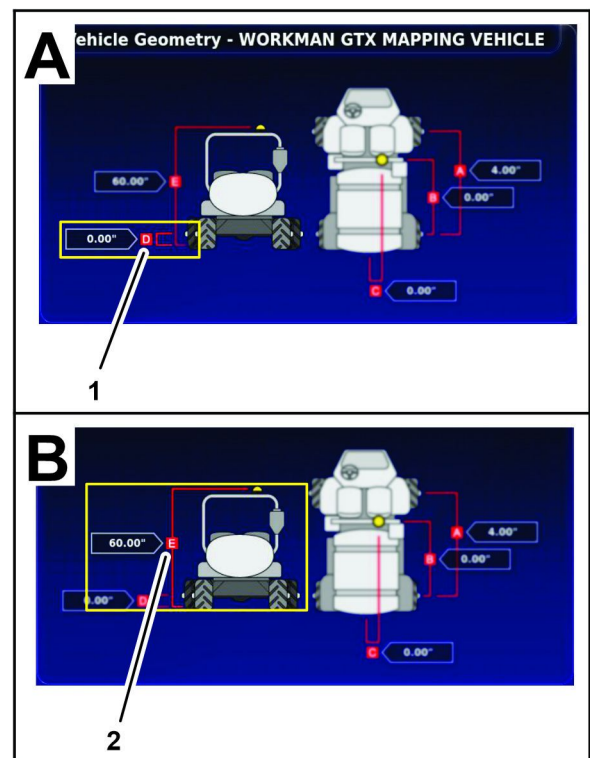

Figure 183
4. Measure the distance between the rear axle centerline and the ground (Figure 183), and record your measurement in the geometry form.
1. Rear axle centerline and ground measurement (D)
2. Satellite receiver and ground measurement (E)
- Measure the distance between the top of the satellite receiver and the ground (Figure 183, and record your measurement in the geometry form.